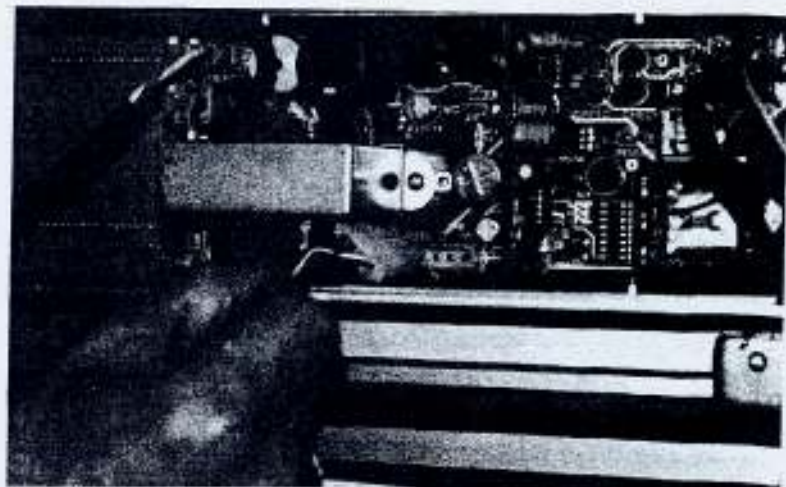

Figure 6
2. The most common cause of a door failing to start closing is the failure of or a short in the 4-pin plug actuating switch (*mat, motion detector, safety beam etc.*). Unplug the 4-pin plug at the C2160-2 master control; any LED that is illuminated should now be off. (See Figure 6) If the actuating device is the problem, the door should close after the time delay expires.